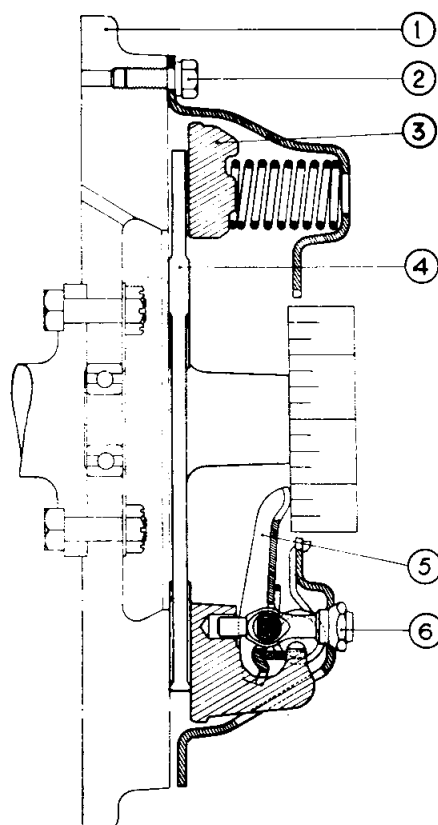

Fig. 15 Adjusting the Release Levers utilising the Borg and Beck Gauge plate No. CG 192.
- (b) **Borg and Beck No. CG 192 Gauge Plate method (Fig. 15).**
Notation for Fig. 15.